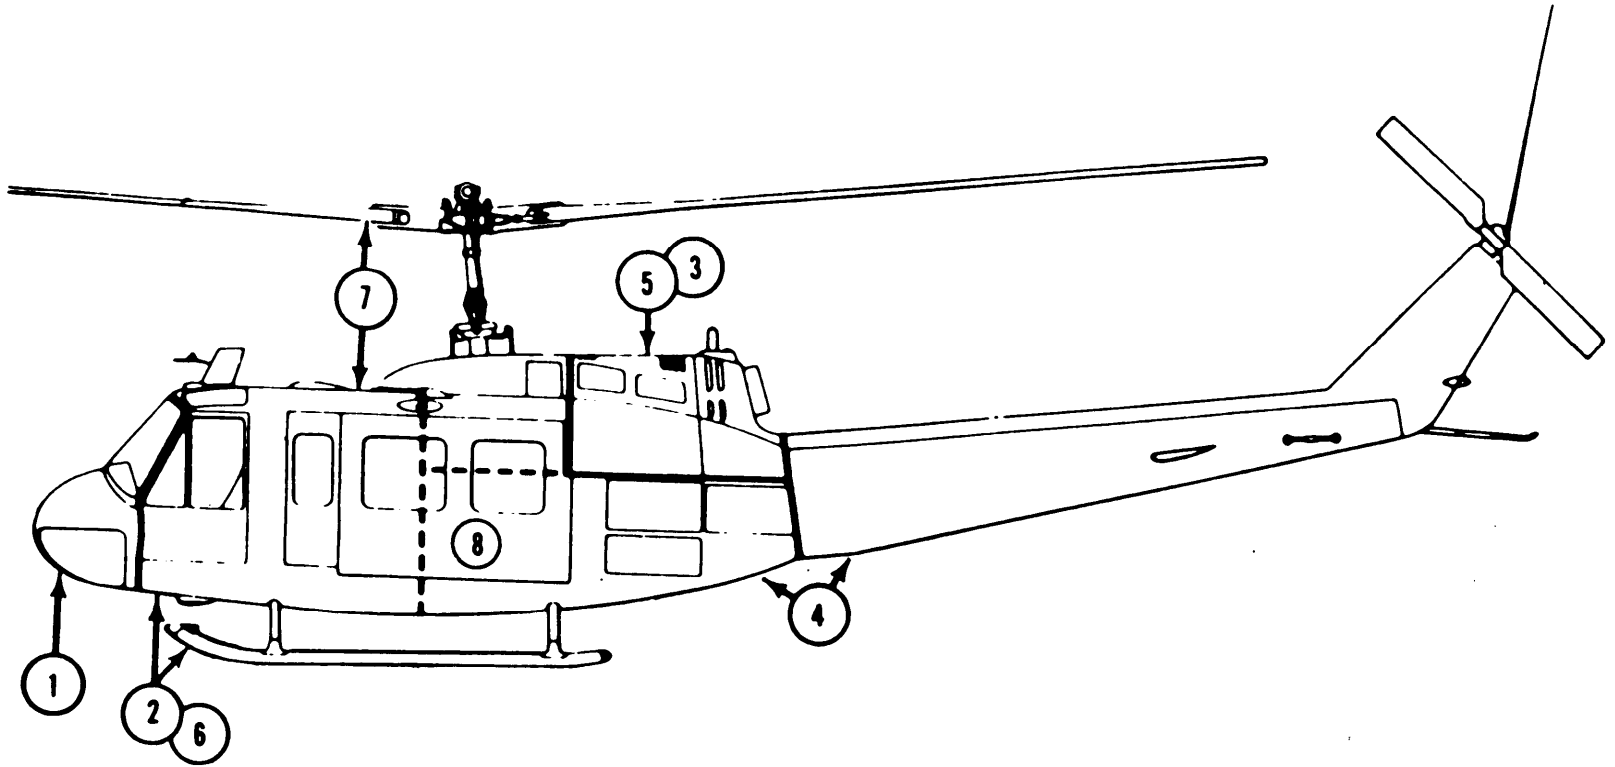

Figure 1. Inspection areas
6. Inspection Areas. Inspection areas are shown in Figure 1.